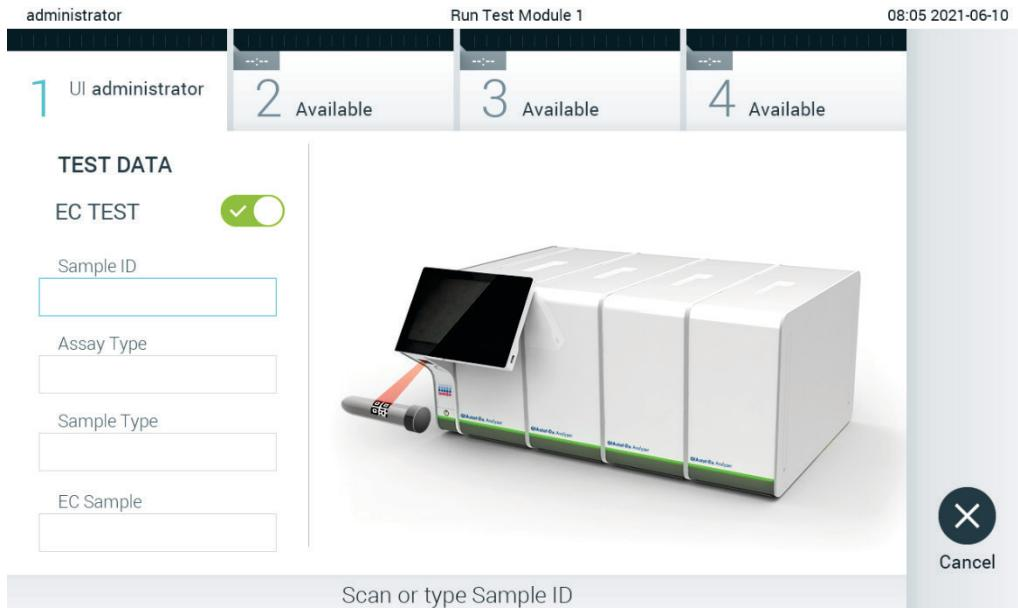

Figure 88. Turning on the EC Test toggle button to enable an EC test.
2. Turn on the EC Test toggle button (Figure 88, next page).
- When prompted, scan the sample ID barcode using the bar code reader that is integrated into the Operational Module (Figure 88).